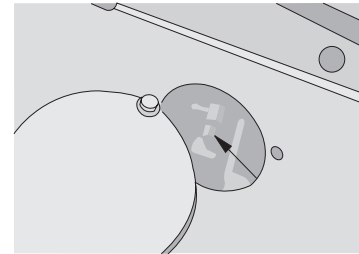

Figure 4-42
- Loose the water drain valve on the bottom of the water tank and the water drain valve on the two ends of the oil cooler, to drain the cooling water. (Figure 4-42)